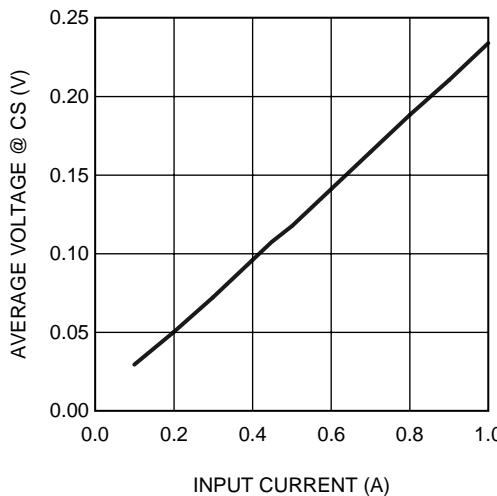
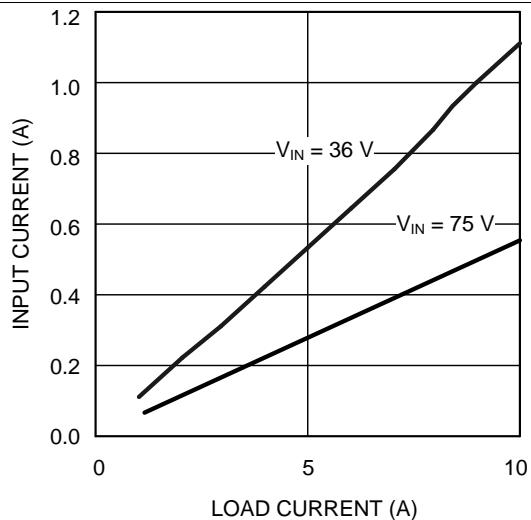

Figure 10. Average Voltage at the CS Pin vs Input Current
Figure 12. Input Current vs Load Current and V_{IN}
Monitoring the input current provides a good indication of the operation of the circuit. If an overload condition should exist at the output (a partial overload or a short circuit), the input current would rise above the nominal value shown in Figure 12. Transformer T_2 , in conjunction with D_3 , R_9 , R_{12} and C_{10} , provides a voltage to pin 8 on the LM5030 (CS) which is representative of the input current flowing through its primary. The average voltage seen at pin 8 is plotted in Figure 10. If the voltage at the first current sense comparator exceeds 0.5 V, the LM5030 disables its outputs, and the circuit enters a cycle-by-cycle current limit mode. If the second level threshold (0.625 V) is exceeded due to a severe overload and transformer saturation, the LM5030 will disable its outputs and initiate a softstart sequence. However, the very short propagation delay of the cycle-by-cycle current limiter (CS1), the design of the CS filter (R_9 , R_{12} , and C_{10}), and the conservative design of the output inductor (L_2), may prevent the second level current threshold from being realized on this evaluation board.